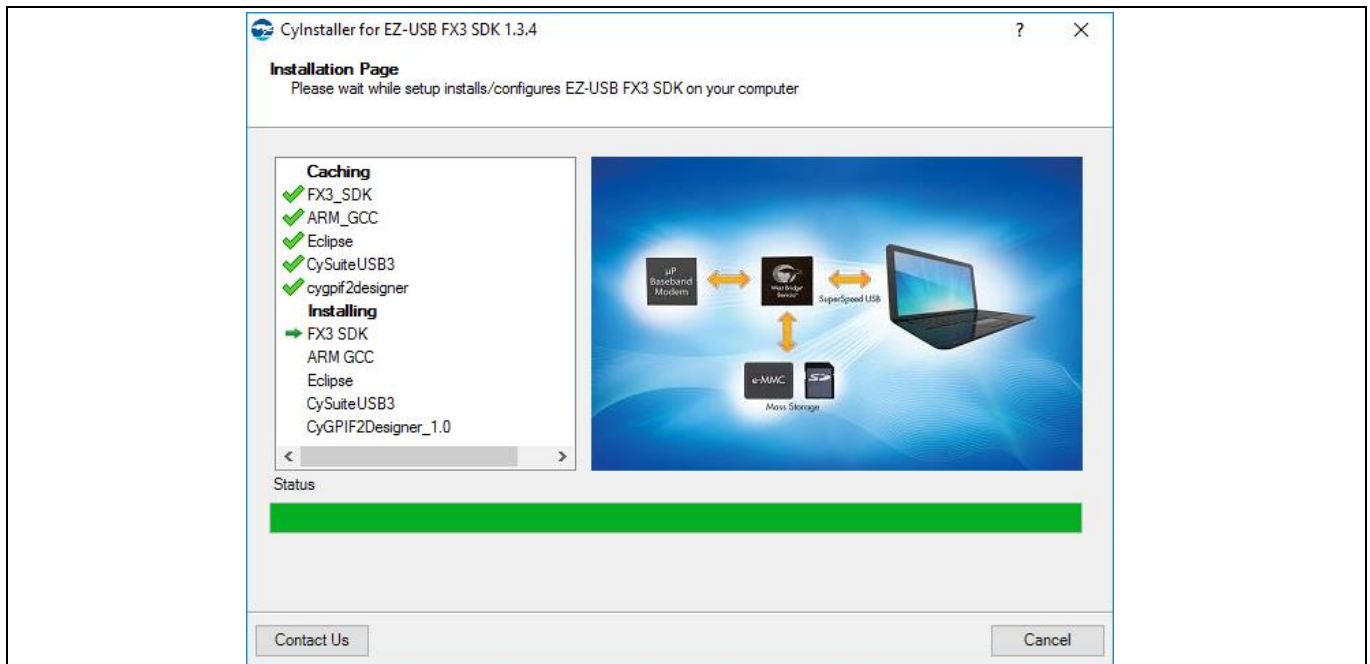

Figure 6 FX3 SDK Setup Installation
- The installation screen will display as in **Figure 6**. The panel on the left of the installation window shows the tools, software, and related files installed with the SDK.